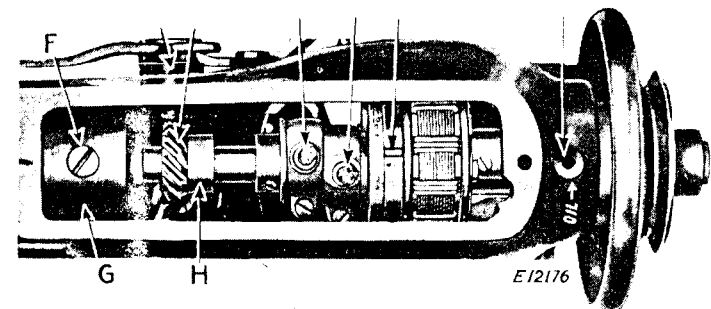

Fig. 5. Oiling Points at Top of Machine
Turn back the cap at the top of the machine, and apply oil to the places shown in Fig. 5.
About twice a week, remove the plug (F, Fig. 5) and fill the reservoir (G) which supplies oil to the needle bar connecting link and the take-up bearing.